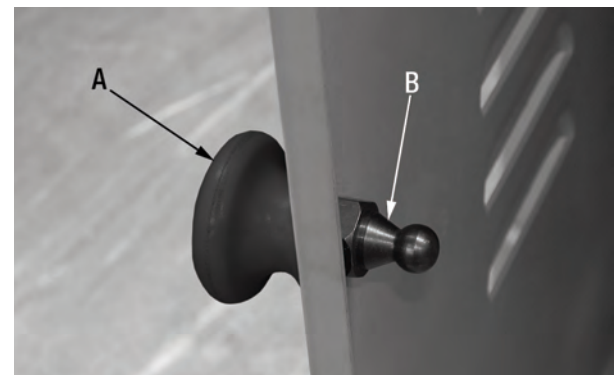

Figure 7
1. Install the cabinet stand door knob (A) Fig.7 and the door bolt (B) to the door as shown using a 17mm open end wrench.